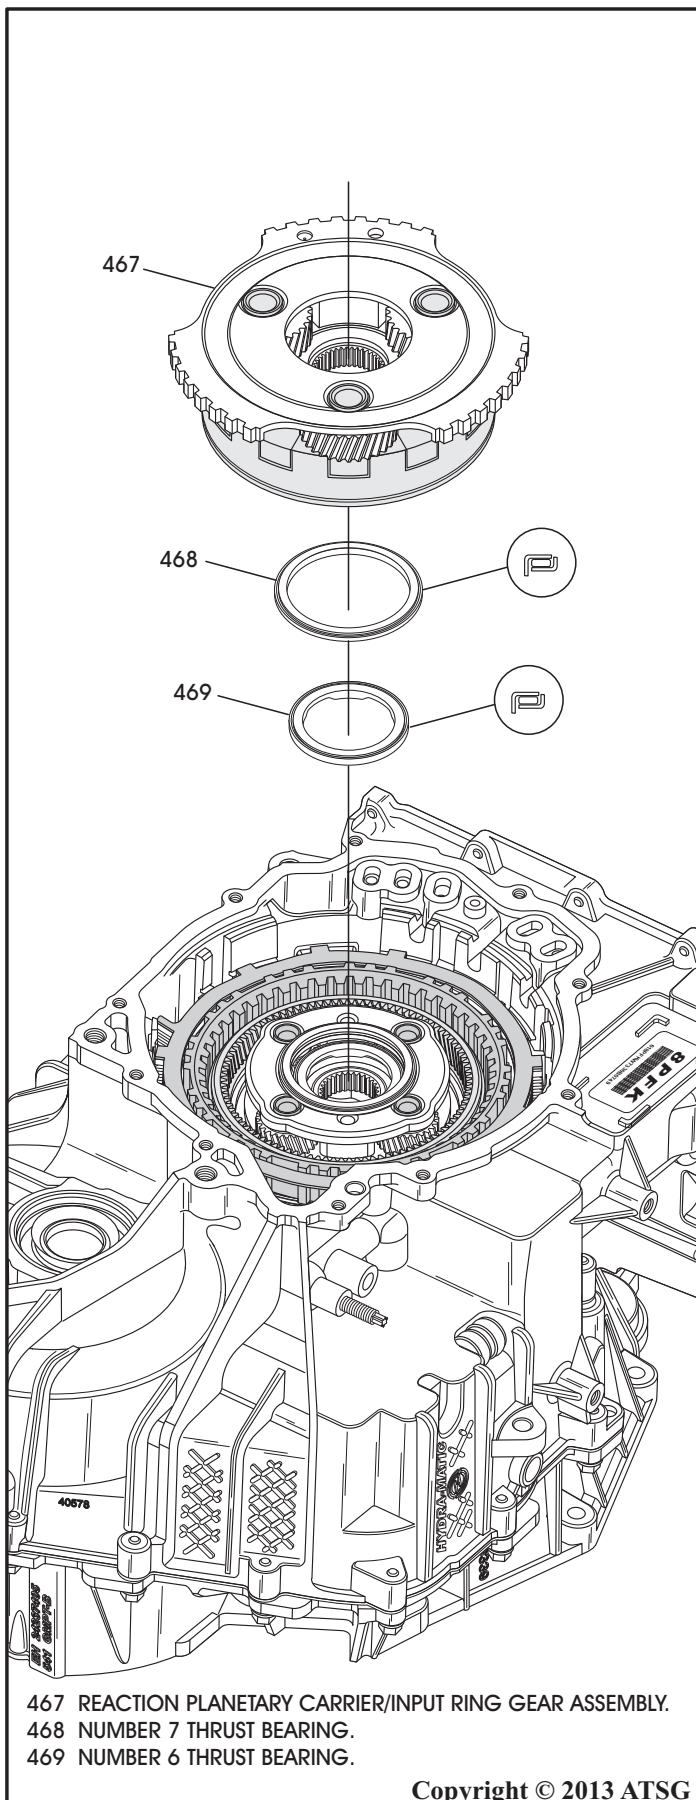

Figure 203
34. Install number 6 thrust bearing in the direction shown in Figure 203, onto the input sun gear.
35. Install number 7 thrust bearing in the direction shown in Figure 203, onto the input planetary carrier.
36. Install the reaction planetary carrier/input ring gear assembly, as shown in Figure 203, by rotating into position until fully seated.